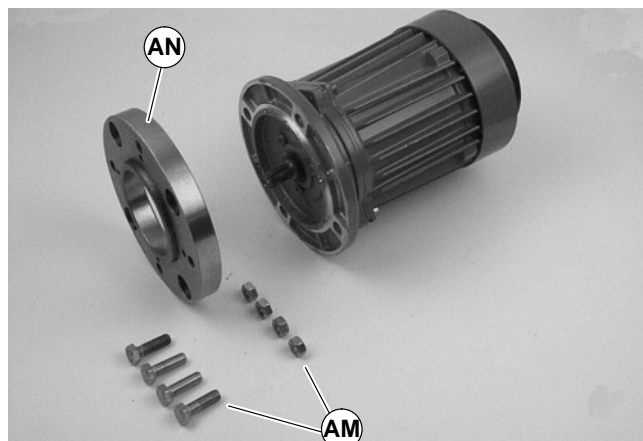

Figure 23
4. Remove four (4) screws and nuts (AM of Figure 23). Remove adapter flange (AN).